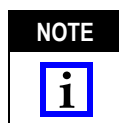

Figure 1
- Added dust cover to Figure 1